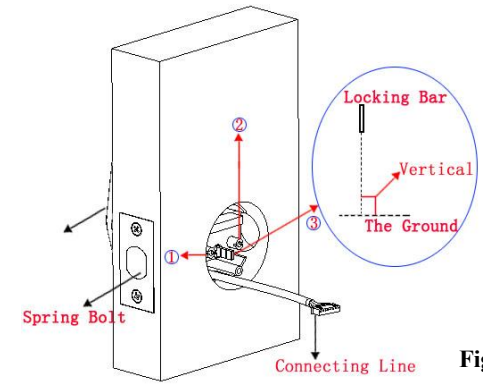

Figure 13
3. Install the **Front panel Assembly** into the matching **Hole Slot** on the door. (There are three holes on the **Lock Body**, as shown in the preceding figure. The cylinder on the fore plate composition must be pulled out from the cross-shaped hole of the **Lock Body** and the **Locking Bar** must be vertical to the ground.), as shown in **Figure 13**.